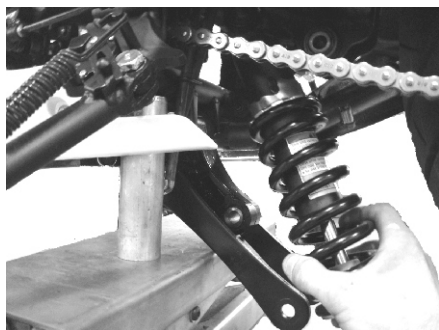

Figure 5
3. Slide stock shock out the bottom of the bike as illustrated in figure 5.